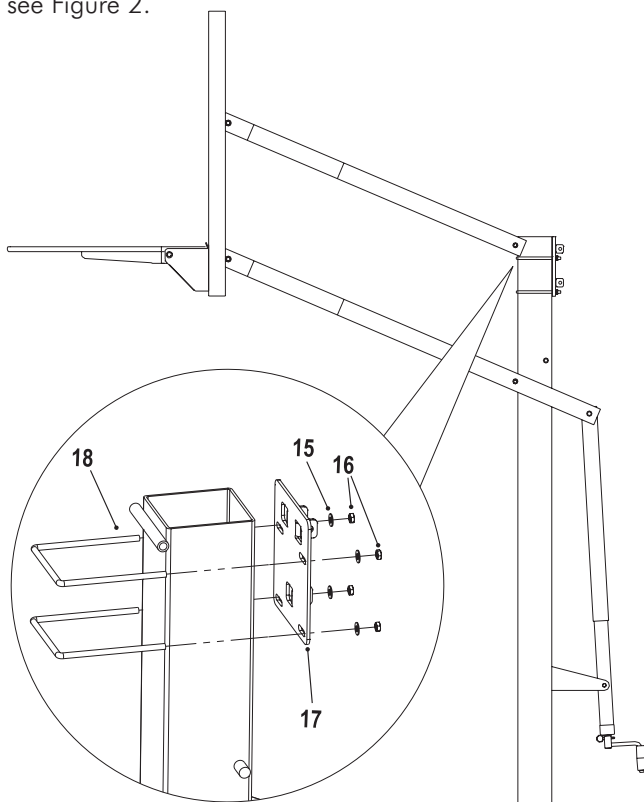

Figure 2
3. Attach mounting plate (#17) to pole with U bolts (#18), washers (#15) and nuts (#16). Top of plate should be even with top of pole see Figure 2.